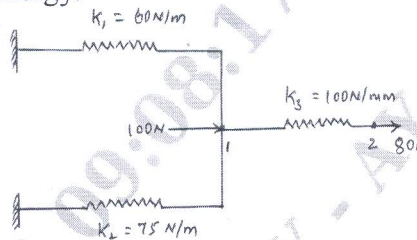

Fig. Q2 (a)
- 2 a. Determine the displacement at node 1 and 2 in the spring system shown in Fig. Q2 (a) by using principle of minimum Energy. (10 Marks)